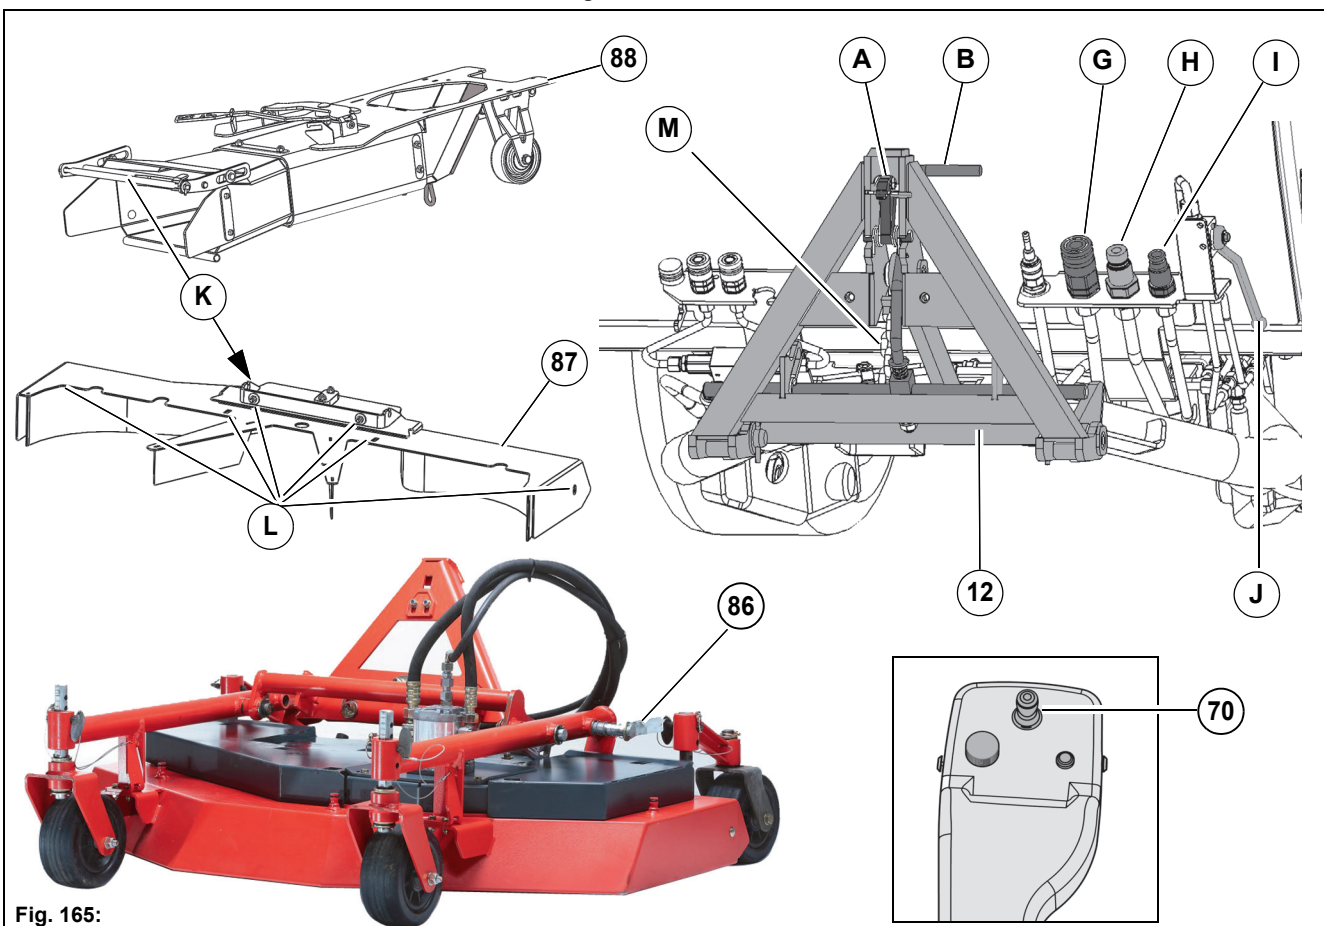

Fig. 165:
3. Fit the suction system **Fig. 165-87** with six flat round screws **Fig. 165-L** to the lawn mower **Fig. 165-86**.
4. Unlock the locking hook **Fig. 165-A** and locking rod **Fig. 165-B** on the front tool carrier.
8. Close the valve **Fig. 165-J** for the suction mouth lift system!
9. Lock the suction nozzle **Fig. 165-88** at the suction system with the bow **Fig. 165-K**.
- Mower hydraulic motors – return = **Fig. 165-G**
- Mower hydraulic motors – supply = **Fig. 165-H**
- Leakage oil pipe = **Fig. 165-I**